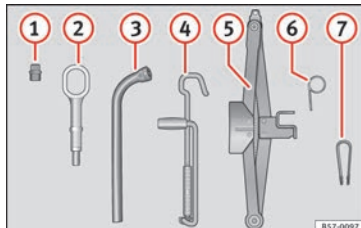

Fig. 68 Underneath the floor panel of the luggage compartment: vehicle tool kit.
- Fit the plastic clip (vehicle tools) » **Fig. 68 (7)** over the cap until it clicks into place » **Fig. 70**.